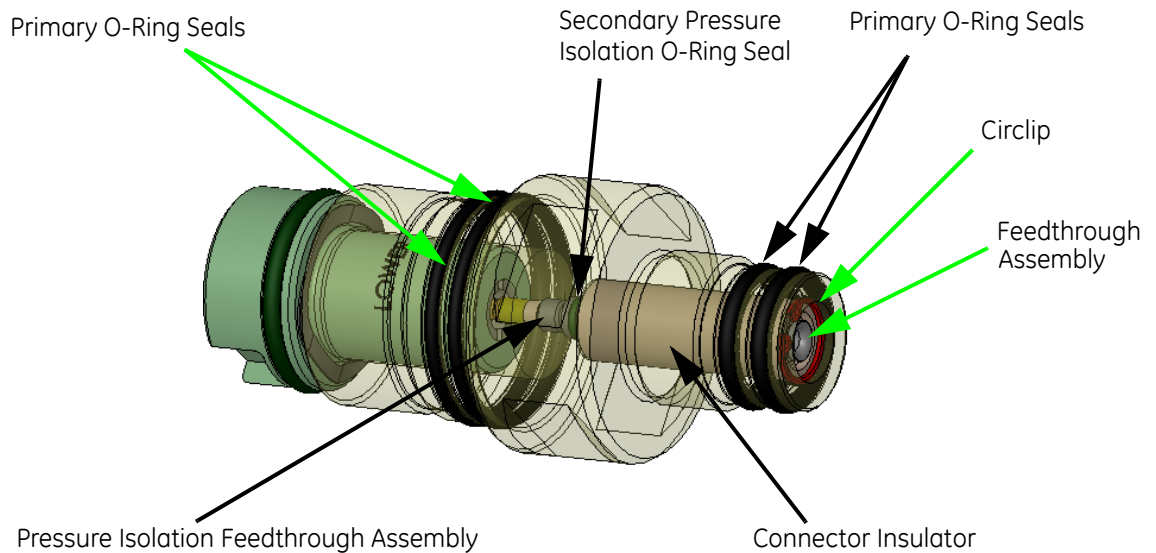

Figure 5-4 Lower Sub Assembly
The Lower Sub (item 11, 09737) contains the Connector and Feedthrough Assemblies (items 8 & 12, 09737) which need to be checked after each run and replaced when necessary. See Figure 5-4 and instructions below to complete this task: